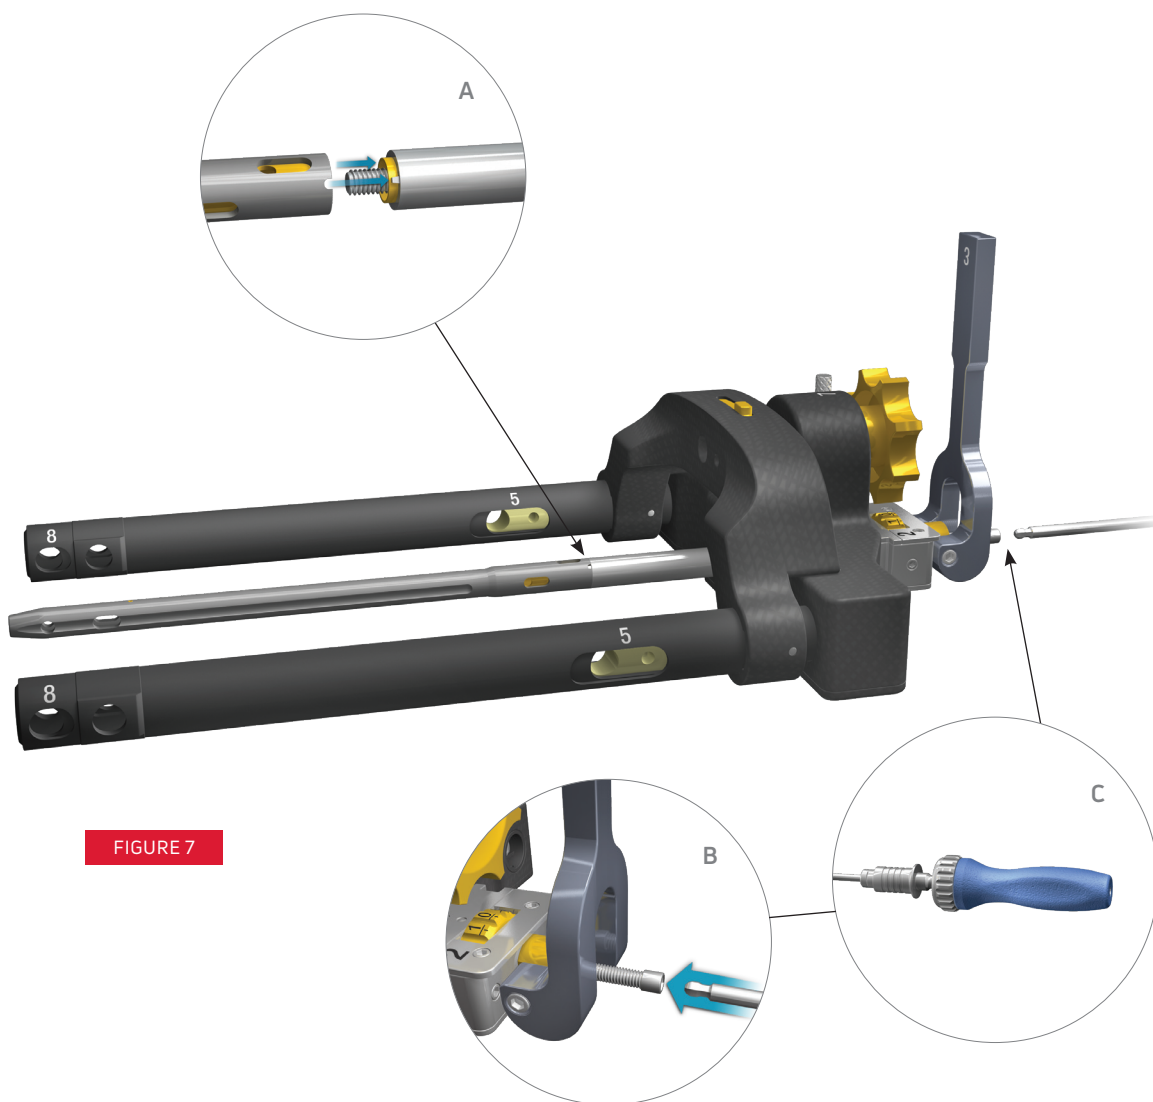

FIGURE 7
1. M6 Connection Screw (17)
2. 5 mm Hex Driver (13)
3. Blue-Handle Ratchet Driver (36)
Insert the M6 Connection Screw through the inner cylinder of the DynaFrame Assembly (A). Attach the DynaNail® Implant onto the DynaFrame Assembly (FIGURE 7), taking care to correctly align the keyed slots on the Implant with the pegs on the DynaFrame Assembly (B). Attach the 5 mm Hex Driver onto the Blue-Handle Ratchet Driver (C) and use the Hex Driver to screw the M6 Connection Screw into the distal end of the DynaNail Implant until tight on the DynaFrame Assembly.